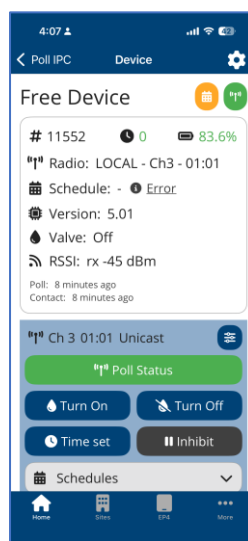

Figure 5
6. Tap the **poll status** button this will commence radio communications with the IPC. The App will try all the radio channels until it finds a radio channel on which the IPC responds. When it does the current status of the IPC will be listed in the status results area (Figure 5)